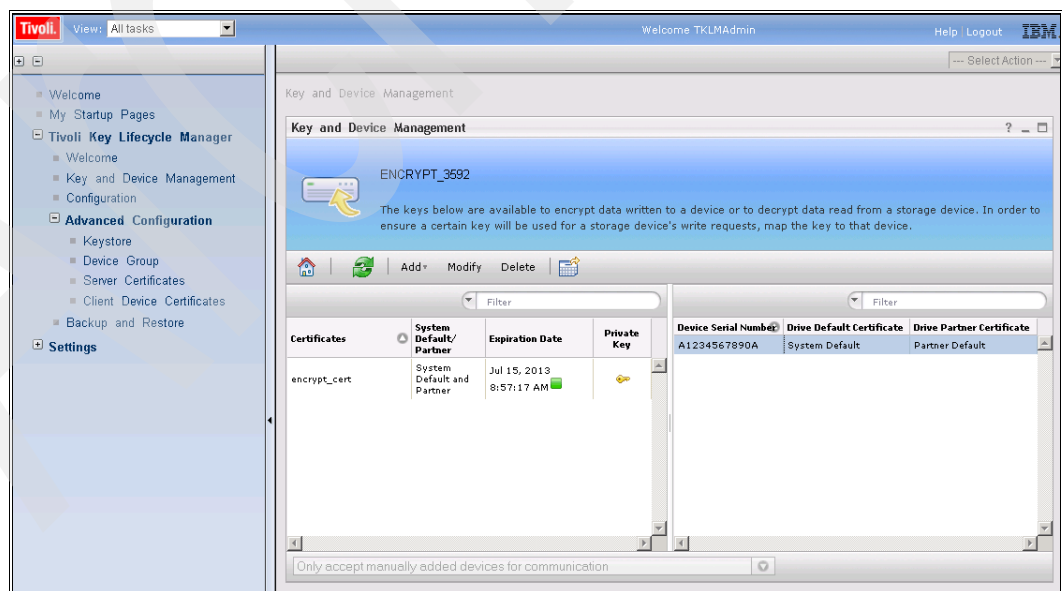

Figure 9-38 Key and device management, tape drive highlighted
3. Highlight any device; the **Modify** and **Delete** options become available (Figure 9-38). Click **Modify**.